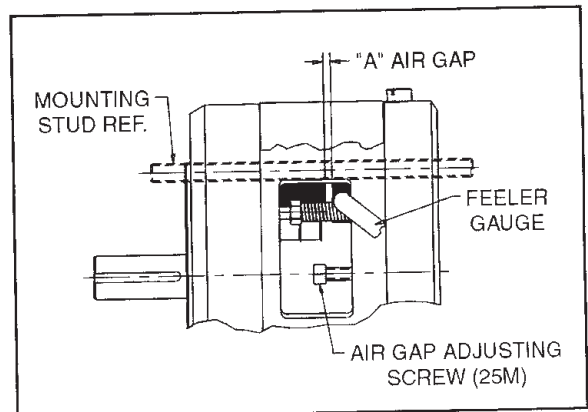

Figure 4
1. To adjust, remove cover (9) to expose adjusting screws (25M) and magnet air gap "A".
2. Measure air gap "A" using 3/8" to 1/2" wide feeler gauge as shown in Fig. 4. (Measure at center of magnet.)